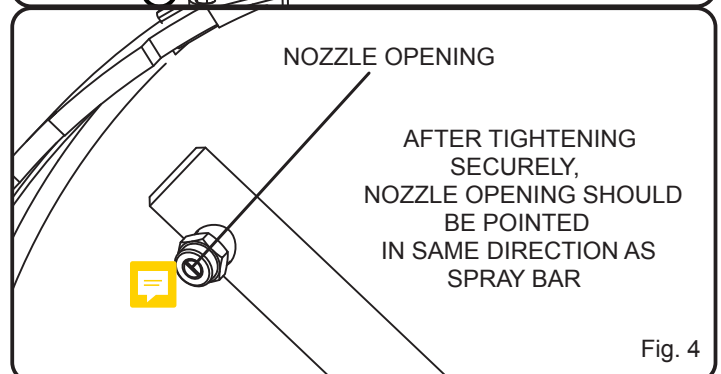

Fig. 4
- Reconnect the nozzle to the spray bar and tighten securely. After tightening, make sure the nozzle opening is pointed in the same direction as the spray bar as shown in figure 4.